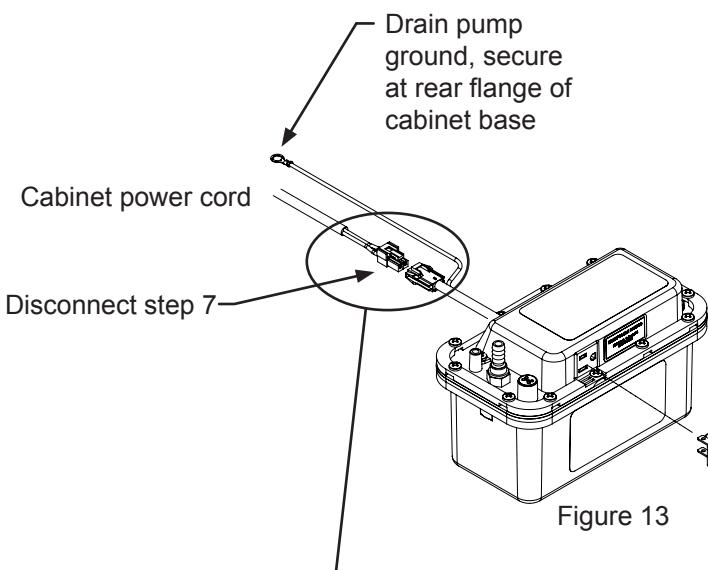

Figure 13
7. Disconnect the electrical plug connection from the side of the drain pump, see Figure 13.
8. Disconnect the cabinet power cord from the drain pump. (See Figure 13).